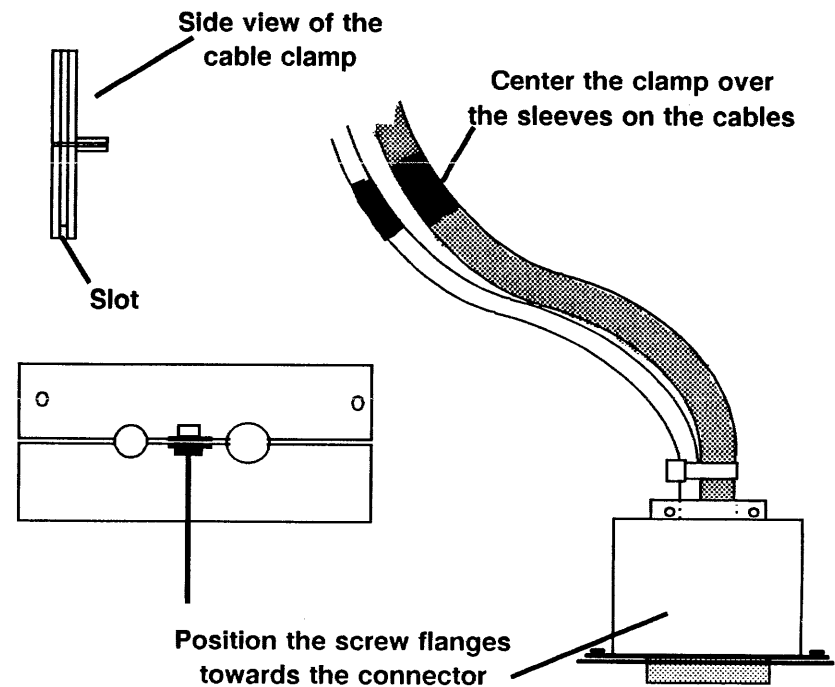

Figure 34. Removable Rigid Drive Cable and Clamp
1. Install the cable clamp (Figure 34).